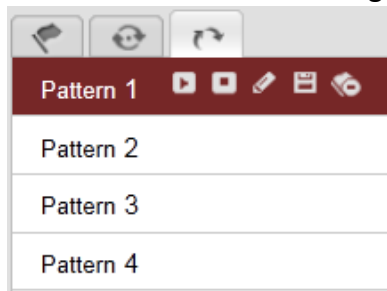

Figure 4-10 Patterns Settings Interface
2. Select a pattern number from the list as shown in Figure 4-10.